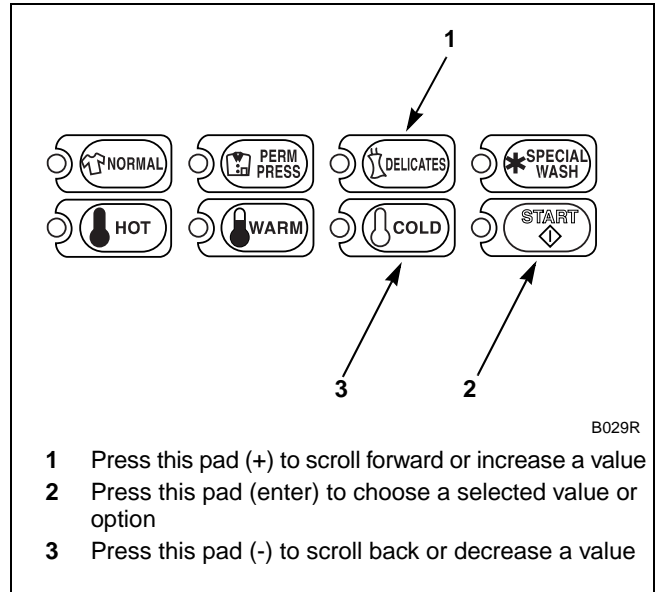

Figure 77
5. Press the DELICATES (+) or the COLD (-) keypad to increase or decrease the current number of minutes displayed in the VFD to the desired number of minutes. Refer to *Figure 77*.
**NOTE: The Delicates PreWash #1 Fill/Tumble Time can be set from zero (0) to 15 minutes.**